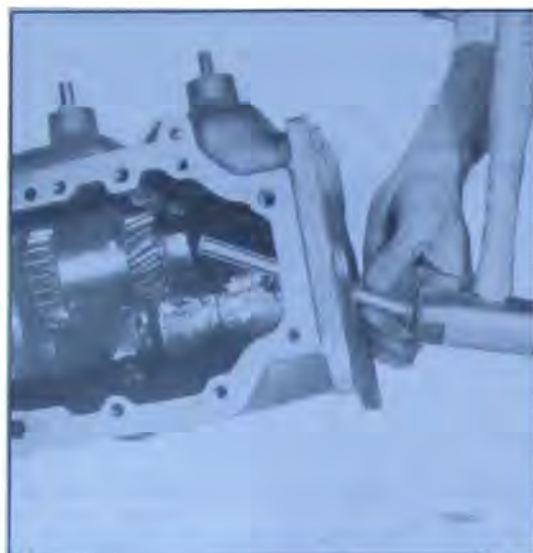

Figure 72-210—Removing Reverse Idle Gear
22. Using a brass drift, drive reverse idle gear shaft out rear of case. See Figure 72-210. Remove gear from case.